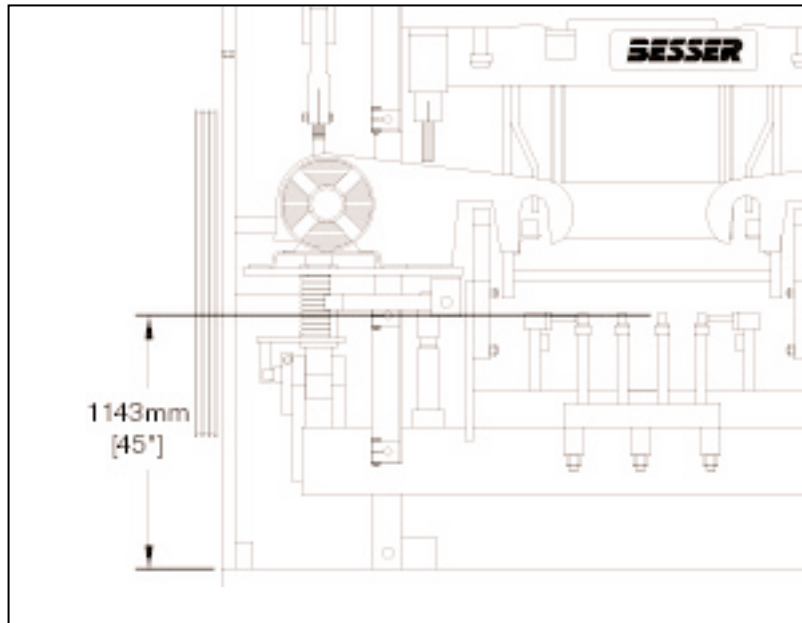

Figure 4.45 PALLET RECEIVER RUBBERS ABOVE BASE PLATE.
4.3.6 Run machine to "first stop." Turn off clutch and drive motor, and adjust the pallet receiver links to obtain a dimension of **1143mm [45"]** from the top of the base plate to the tops of the pallet receiver rubbers (see figure 4.45). This adjustment should expose approximately **600mm [23 5/8"]** of link